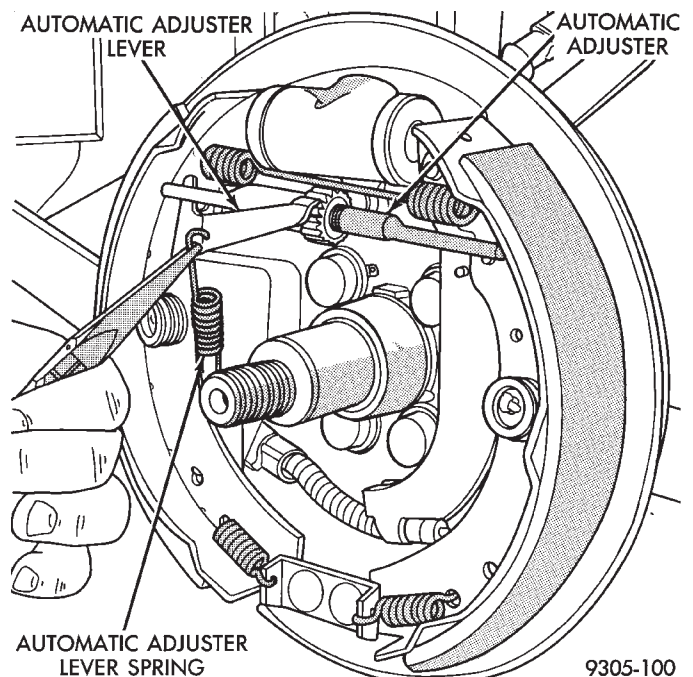

Fig. 6 Remove or Install Automatic Adjuster Lever Spring
(3) Remove automatic adjuster spring from automatic adjuster lever (Fig. 6).